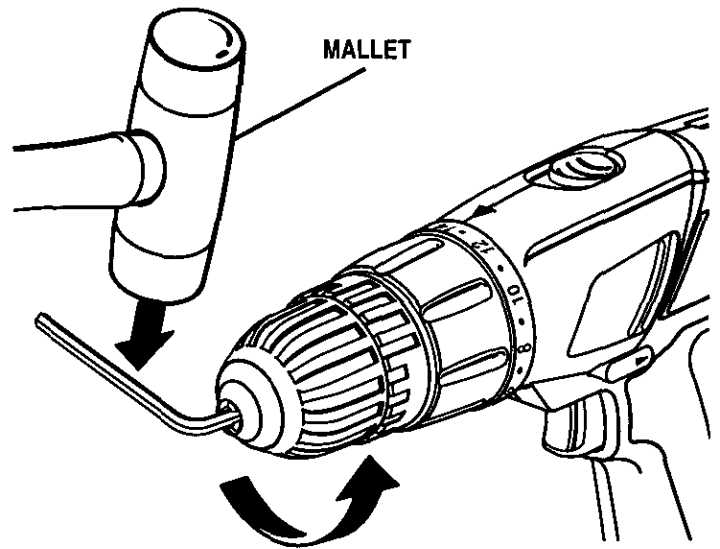

Fig. 15
- Insert hex key in chuck and tighten chuck jaws securely. Tap sharply with a mallet in a counterclockwise direction. This will loosen chuck on the spindle. It can now be unscrewed by hand. See *Figure 15*.